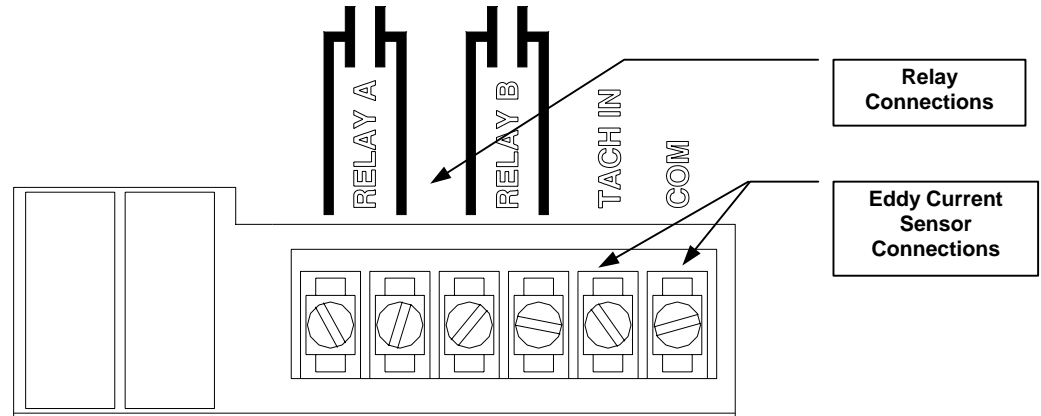

Figure Q.4-5: Relay & Tachometer Connections
- 3) Attach the BLUE wire (0VDC COMMON) to the COM position (TB1-5) on the TPC Module Relay and Tachometer Terminal Strip (Figure Q.4-5);
- 4) Attach the BLACK wire (OUTPUT) to the TACH IN position (TB1-6) on the TPC Module Relay and Tachometer Terminal Strip (Figure Q.4-5).